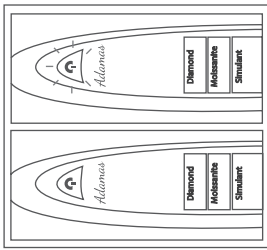

Fig. 1.10
3. Press the Power Button to switch on the tester. Once the READY Light stops blinking, the tester is ready to enter calibration mode as shown in **Fig. 1.10**. This process may take up to 25 seconds. If the READY Light continues to blink after 25 seconds, the probe tip may not be positioned properly. Kindly repeat the procedure from Steps 1 and 2.